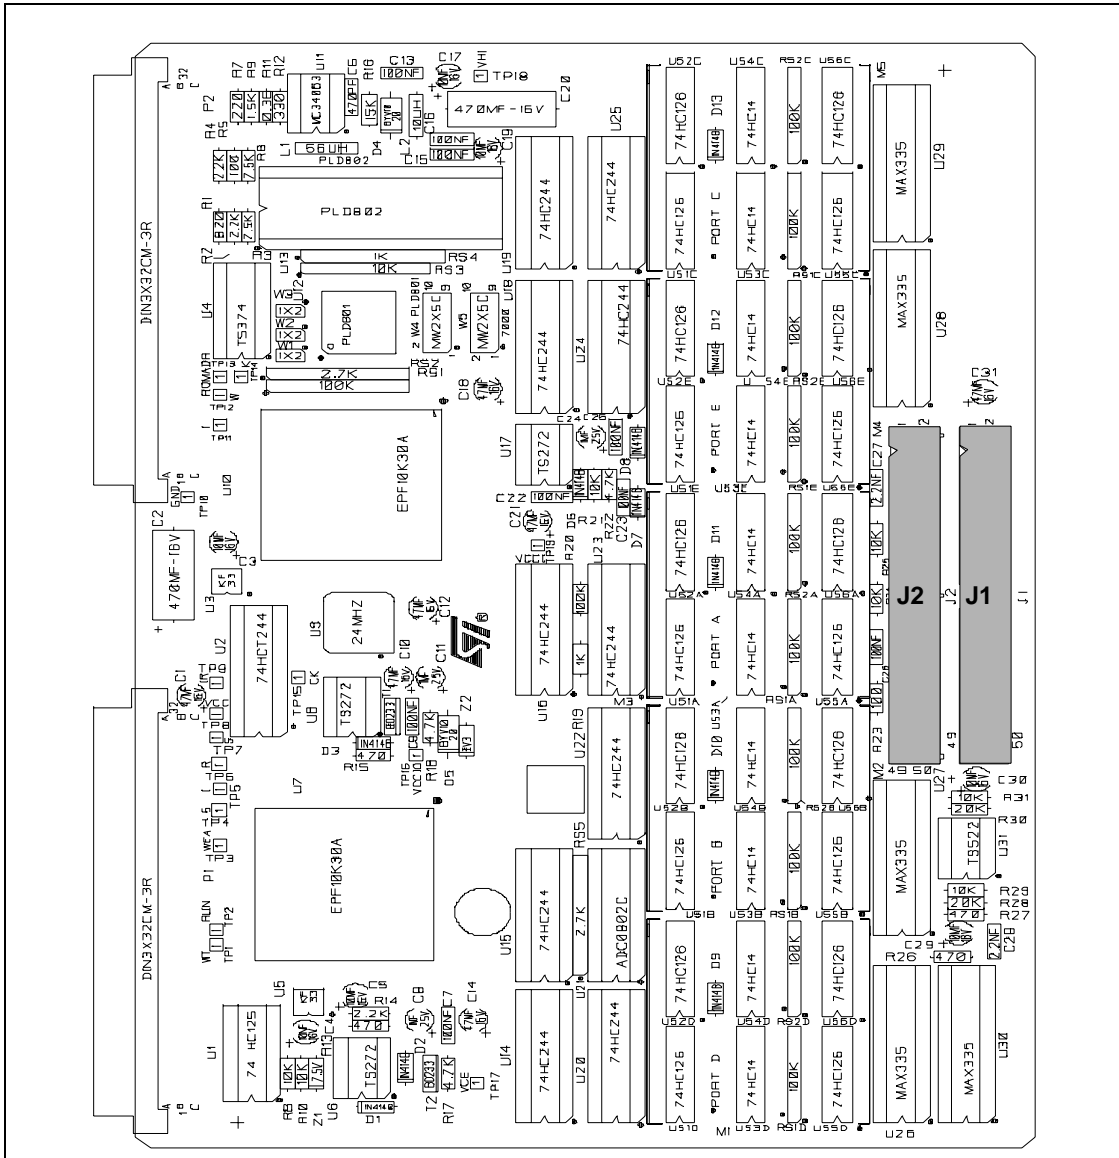

Figure 6: Schema of Dedication Board
- a Connect one flat cable to J1 on the probe board and J1 on the dedication board (see schema of dedication board in Figure 6).